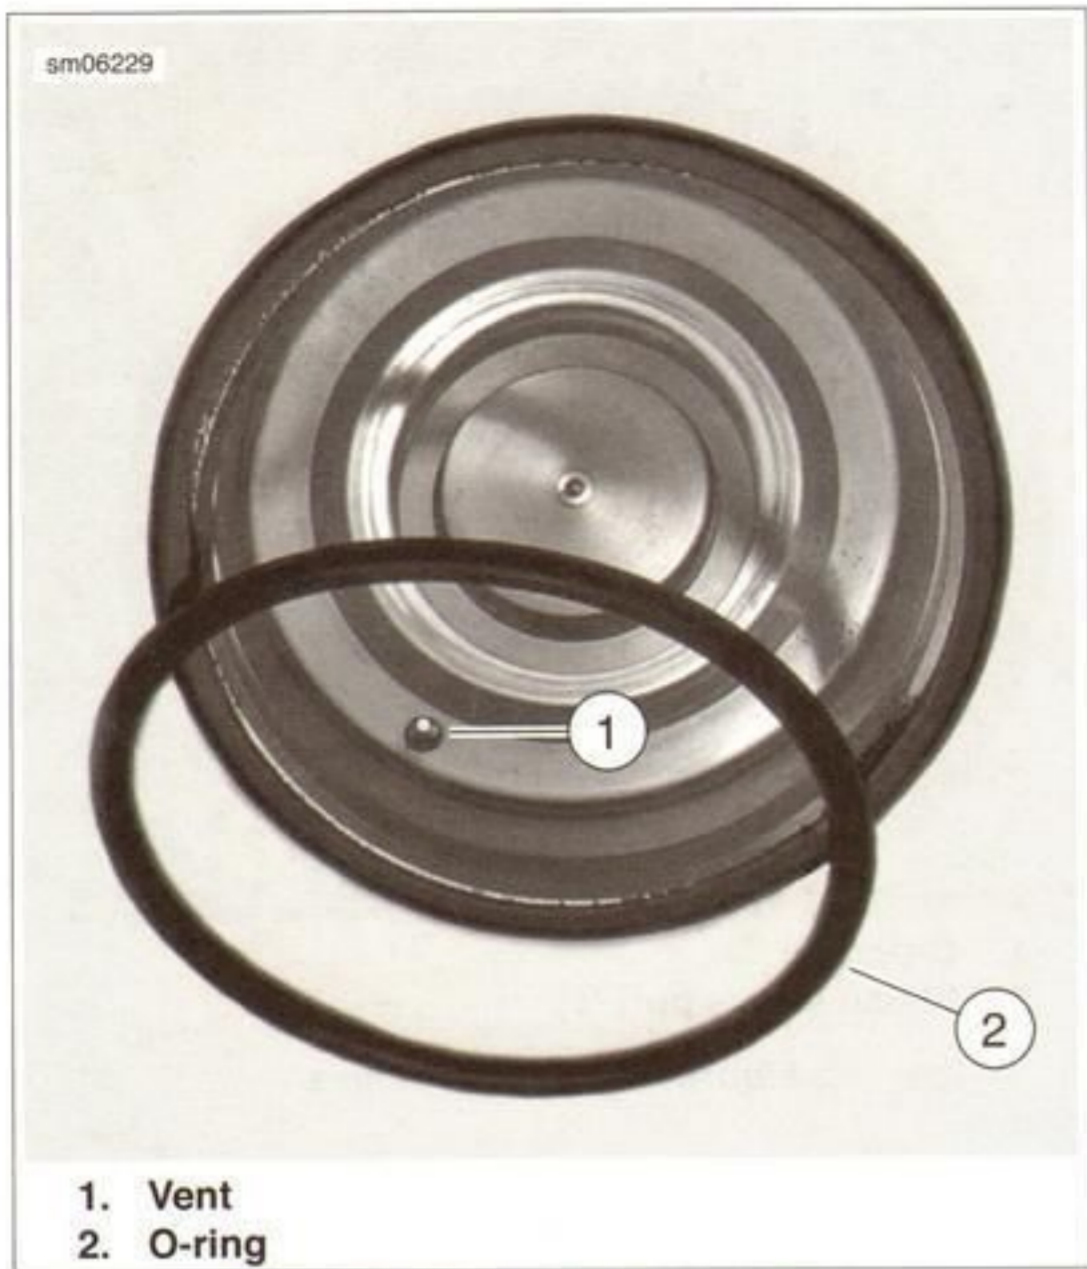

Figure 6-23. Cover Plug and O-ring
1. Verify piston sleeve ports (2) are free from obstructions. Clear ports using compressed air.
2. See Figure 6-23. Remove O-ring (1) from the cover plug and discard.